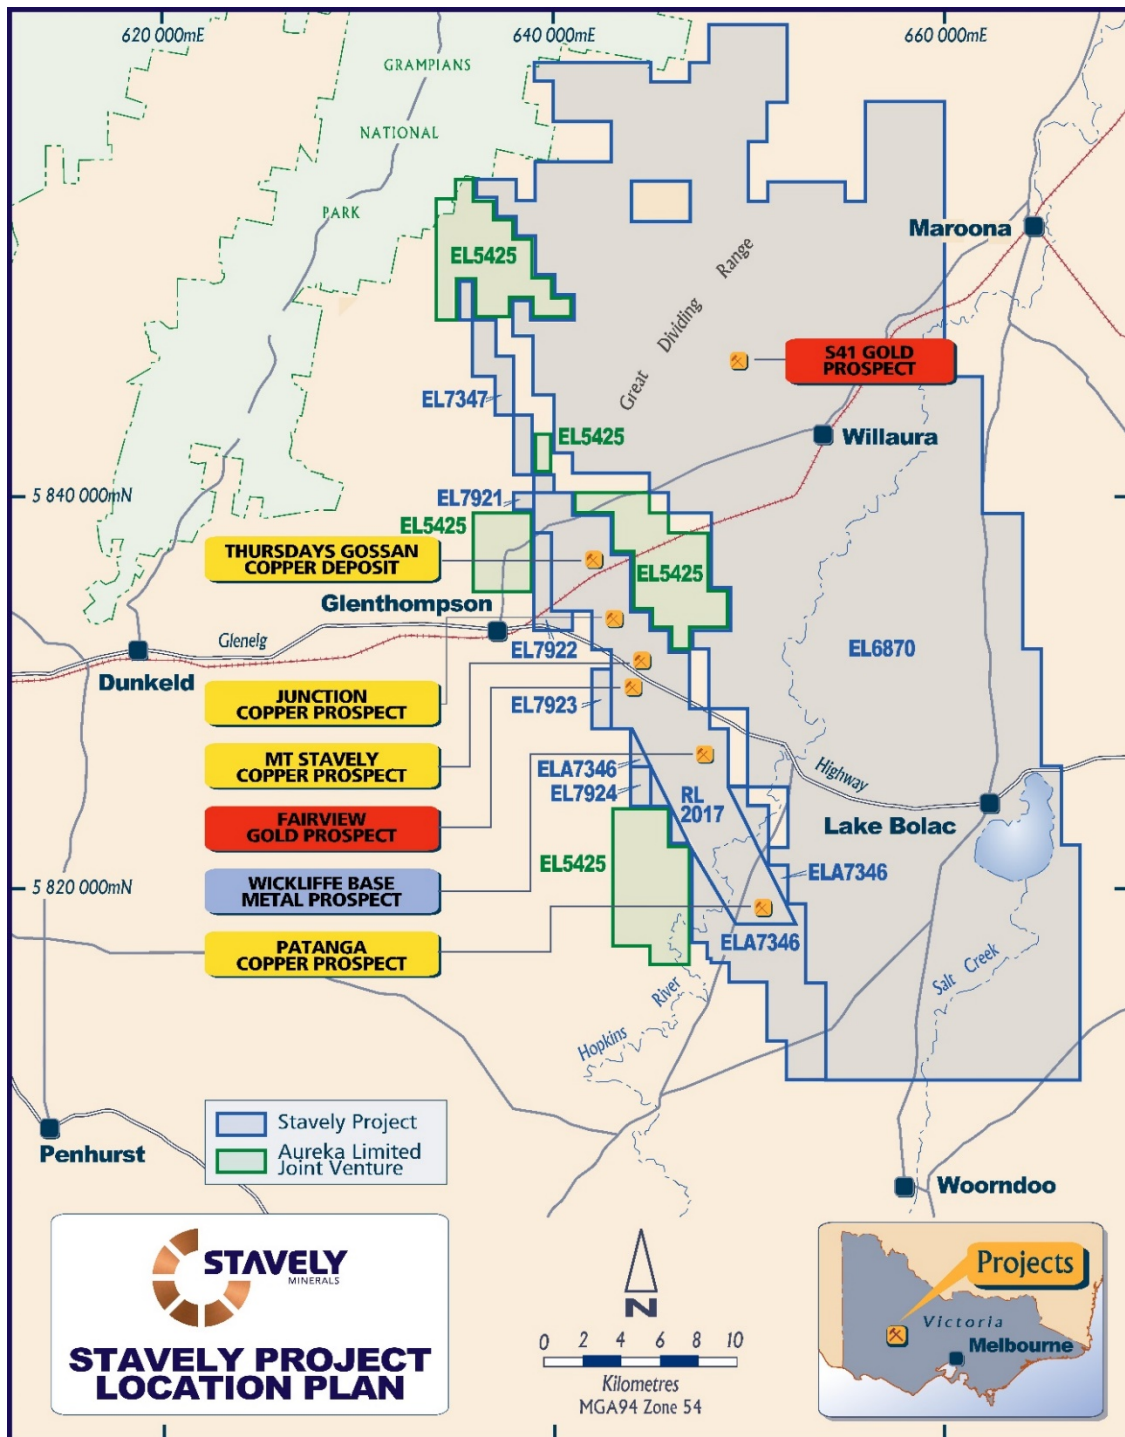

Figure 1. Stavely Project and prospect location map.
Stavely Minerals Limited (ASX Code: **SVY** – “Stavely Minerals”) is pleased to advise that it has received assay results from the Phase 2 Reverse Circulation (RC) drilling program at the Fairview North gold prospect, at its 100%-owned **Stavely Copper-Gold Project** in western Victoria (Figures 1 & 2).